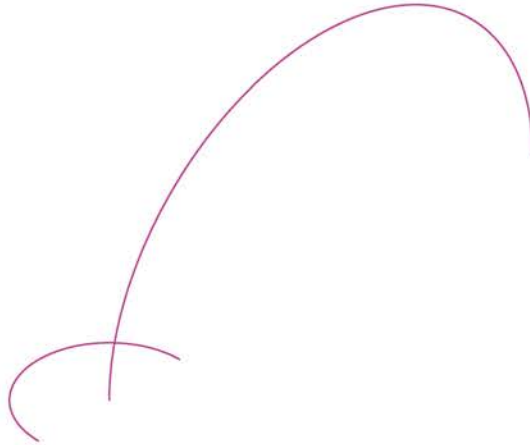

Fig. 18.53 Exercise 11 – the circle and semicircle
11. Fig. 18.53 shows in an **Isometric** view a semicircle of radius **25** constructed in the **Top** view on a layer of colour **Magenta** with a semicircle of radius **75** constructed on the **Front** view with its left-hand end centred on the semicircle. Fig. 18.54 shows a surface constructed from the two semicircles in a **Realistic** mode.